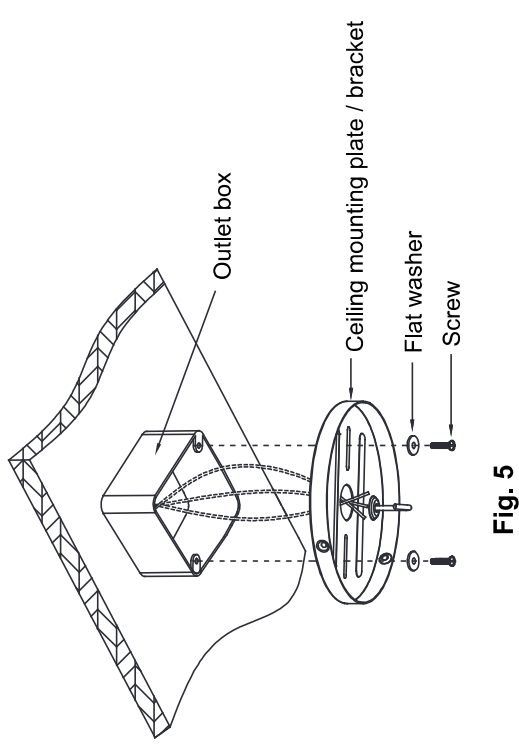

Fig. 5
Step 1. Pass the 120 Volt supply wires from the ceiling outlet box through the center of the mounting bracket. Securely attach the ceiling mounting plate/bracket to the ceiling outlet box as shown (**Fig. 5**).